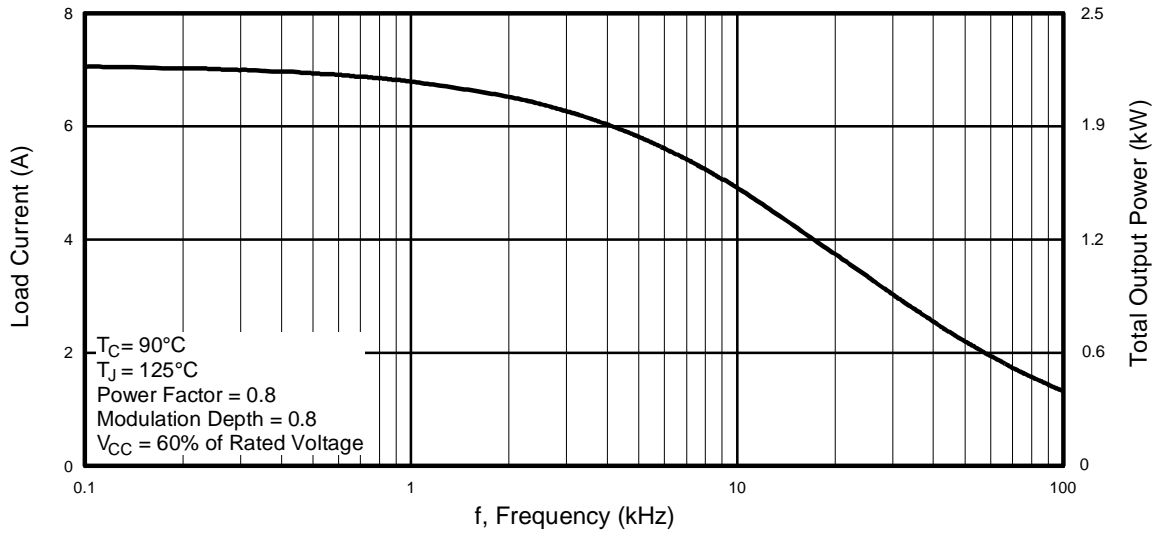

Fig. 1 - RMS Current and Output Power, Synthesized Sine Wave
- See Fig. 1 for Current vs. Frequency curve
5.4 A_{RMS} per phase (1.7 kW total) with T_C = 90°C, T_J = 125°C, Supply Voltage 360Vdc, Power Factor 0.8, Modulation Depth 80% (See Figure 1)